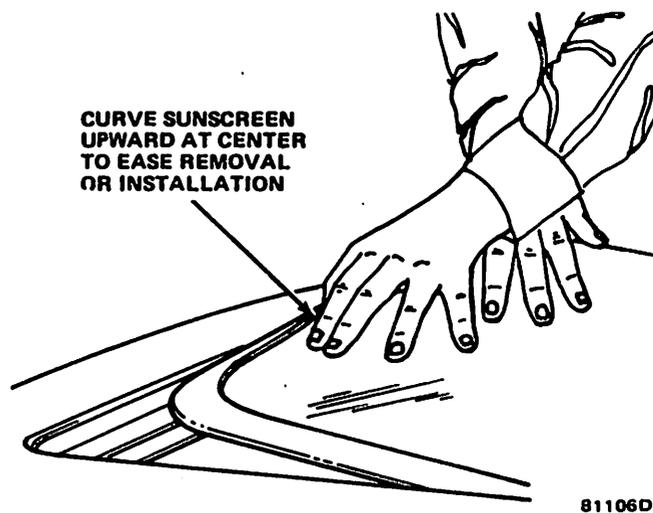

Fig. 3L-15 Sunscreen Removal/Installation
- (1) Working from outside of vehicle, curve sunroof screen upward at center of screen and slide screen rearward and downward into sun roof opening (fig. 3L-15).
- (2) Install glass panel and halo assembly. Refer to Glass Panel Installation and Halo Assembly Installation procedure.